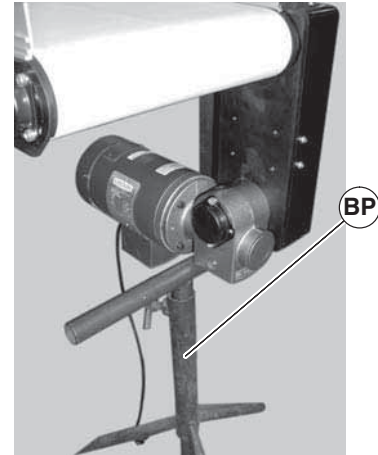

Figure 58
- Remove four (4) screws (Figure 58, item BQ) and remove cover (BR).